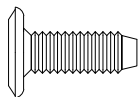

FIG.3.
- Attach the Allenbolt 9/16"(15 mm) (K) on the lowest hole of Sideboard.
- Use Bolt (K) to fill in all holes after assembled mattress spring (8). Tighten all bolts with Allen key (D).
- Final position as shown in FIG.3.